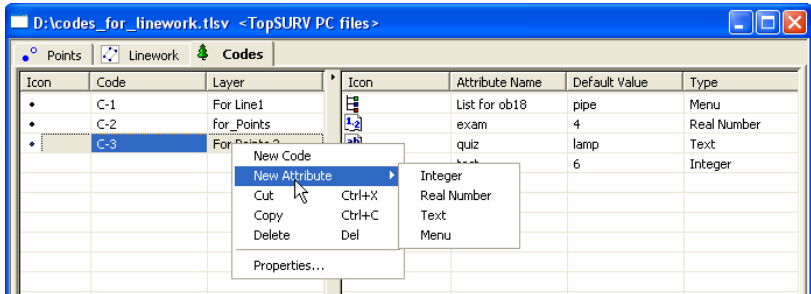

Figure 4-90. Select Code Attribute
2. To edit the code's attribute, right-click the code and click **New Attribute** on the pop-up menu, then select the desired attribute (Figure 4-90).